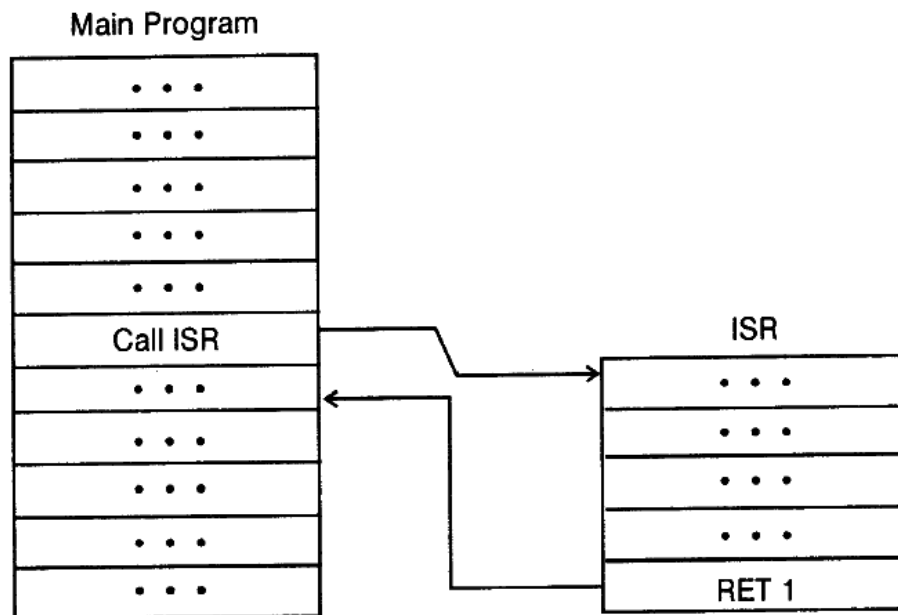
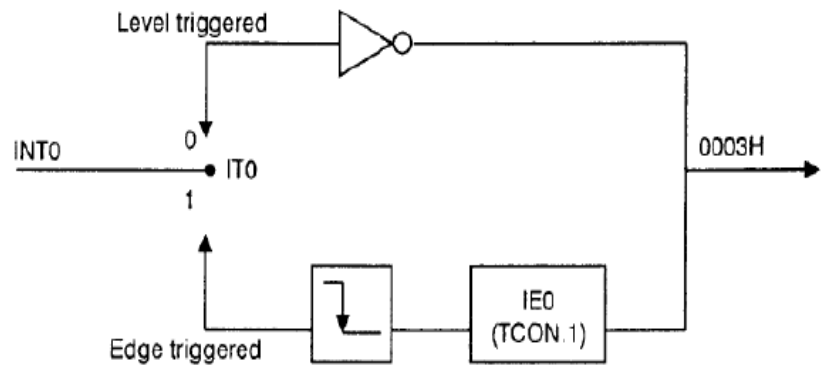

Figure 4: Interrupt Structure
Figure 5: Activation of INT0
- Fig. 4. Shows the activation of INT0 and Fig.5. shows the activation of INT1